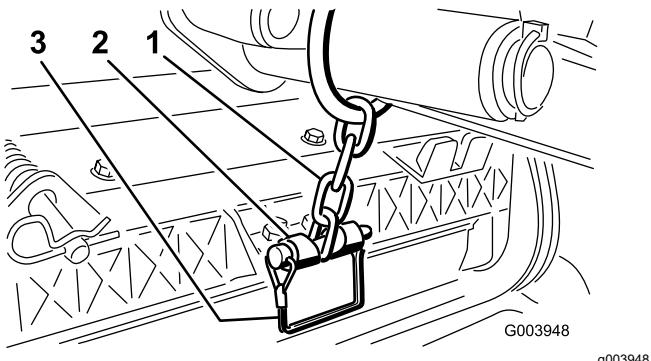

Figure 12
13. Secure the lift-arm chain to the chain bracket with the snapper pin (Figure 12).